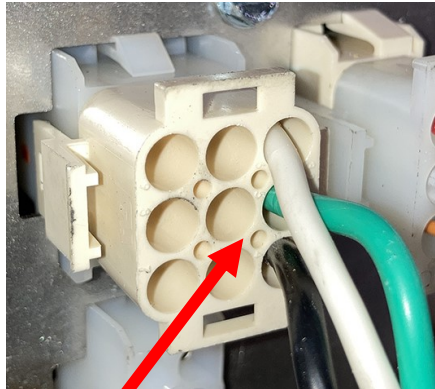

Fig 11
11. Locate the plug with line voltage wires to the filter pump motor on the front of the transformer box (Figure 11).